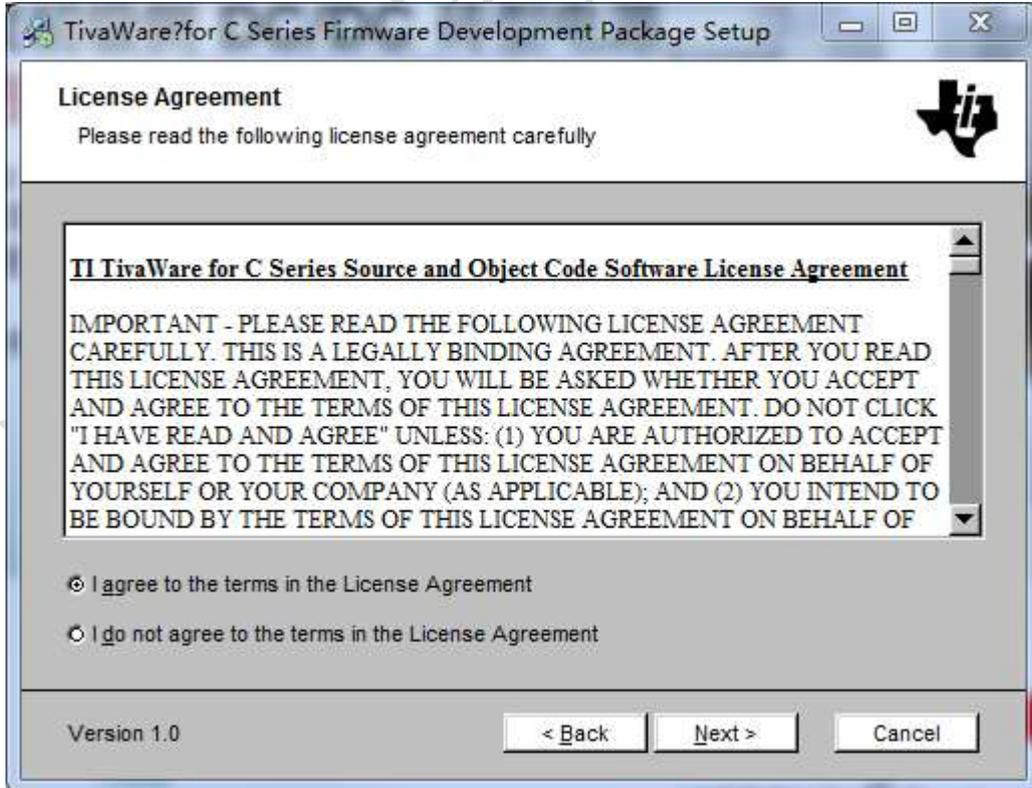

图 3.3 TivaWare 安装步骤 3
(4) 点击 next，选择 I agree to the terms in the License Agreement，如图 3-3；